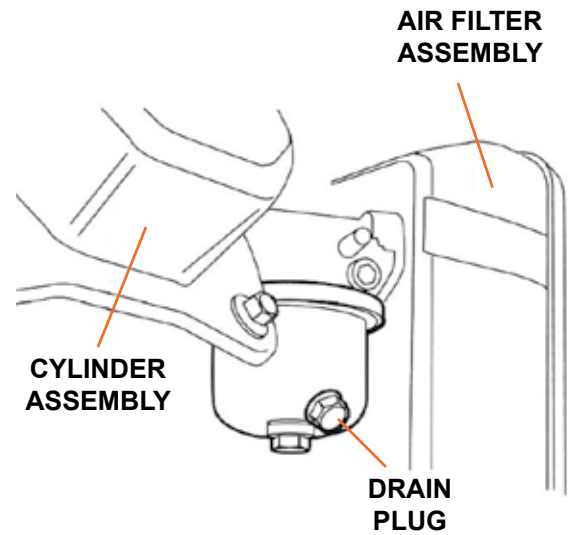

Figure 13
2. When the generator is to be stored for longer than 20 days, prepare the engine for storage by emptying the fuel tank and draining all fuel lines (see Figure 13). Clean out area around spark plug and remove. Pour one tablespoon of engine oil into the cylinder through the spark plug hole. Reinstall the spark plug, but leave the spark plug wire disconnected. Pull recoil starter handle to distribute oil in the cylinder. Stop after one or two revolutions when you feel the piston start the compression stroke (when you start to feel resistance).